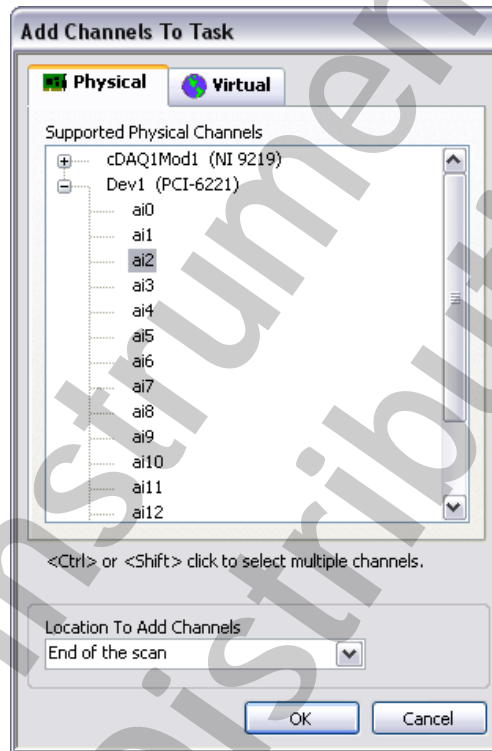

Figure 2-8. Adding Local Physical Channel to NI-DAQmx Task
- ☐ Click the **Add Channels** (plus sign) button and select **Voltage**. Select the physical channel **ai2** for your DAQ device. From the Location To Add Channels pull-down menu, select **End of the scan**, as shown in Figure 2-8.